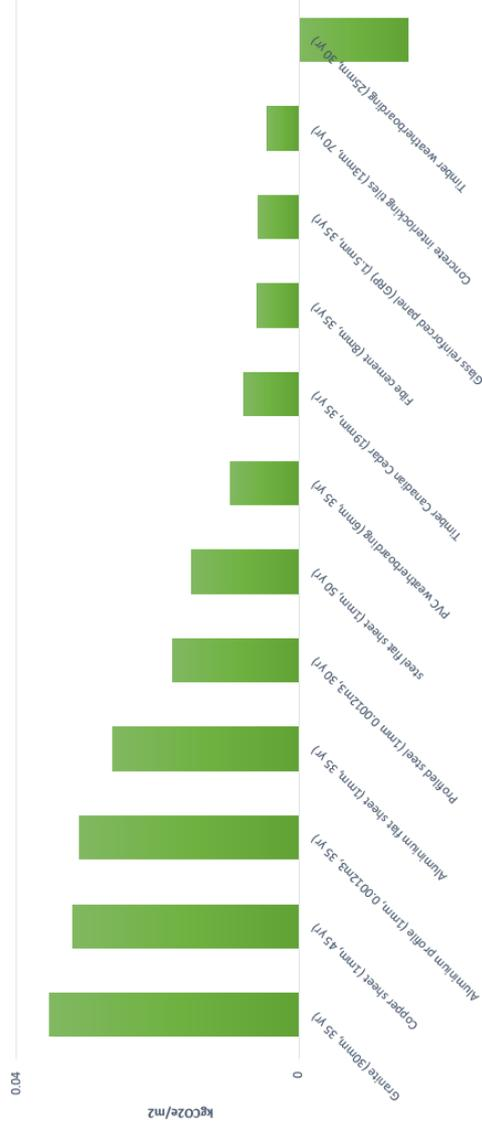

FIG 1: HIERARCHY OF BASIC CLADDING OPTIONS. TIMBER CLASSING SHOULD BE UTILISED WHEREVER POSSIBLE SOURCE: ETOOLLCD
- See Fig 1 below
- See Fig 1 below.